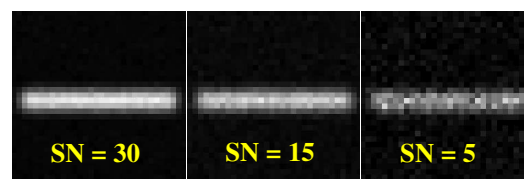

Figure 9. Images with different generated noise levels
- Signal to noise ratio: You have to make an estimation of the Signal to noise (SN) value from your recorded image. Inspect your image and decide if your image is noisy ($S/N < 10$), has moderate noise (10-20) or is a low-noise image ($S/N > 20$). See examples of noisy images in Figure 9